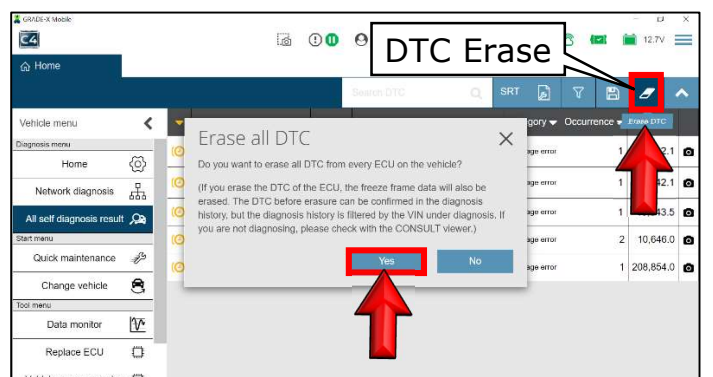

Figure 21
22. Select the erase DTC icon, and select **Yes** to erase DTC's. (Figure 21)